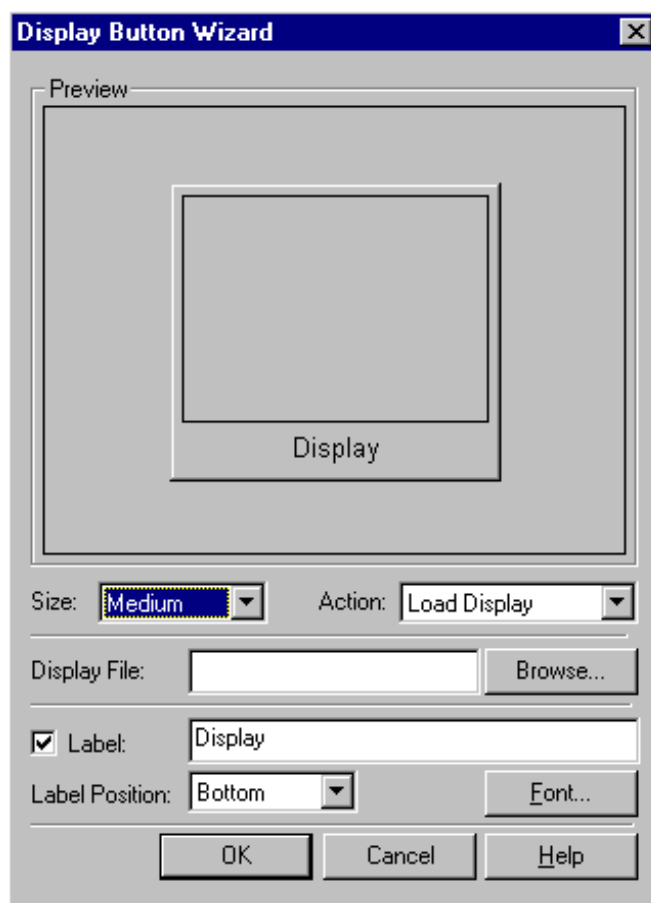

Figure 11-19: Display Button Wizard
2. Click in the display. The Display Button Wizard appears (Figure 11-19).